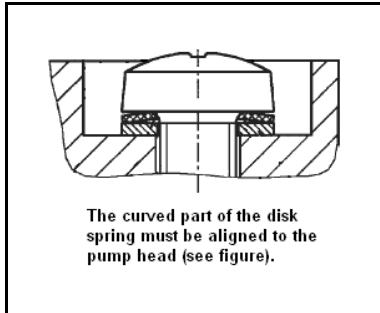

Fig. 6: Orientation disk spring
i For placement of disk spring (15) and washer (16) and for orientation of disk spring see fig. 6.